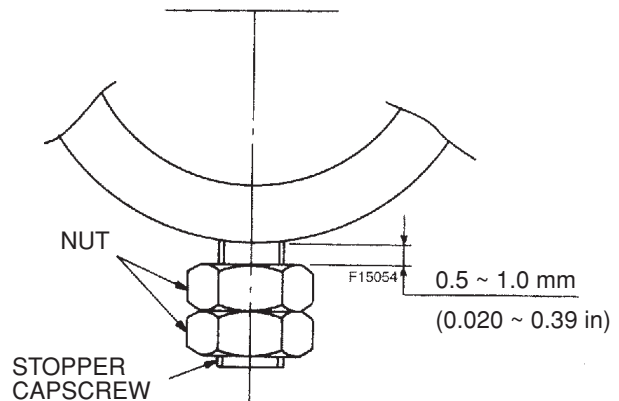

Fig. 2-21 Tightening procedures for nuts
- (1) Referring to the Section "ATTACHMENT DIMENSIONS" of Specifications, replace the worn-out bushings and dust seals to new ones.
- (2) Before installing pin (P), (Q) and (R), apply grease to their shaft area.
- (3) Referring to Fig. 2-21, install the nuts for capscrew to prevent the pin from coming out.